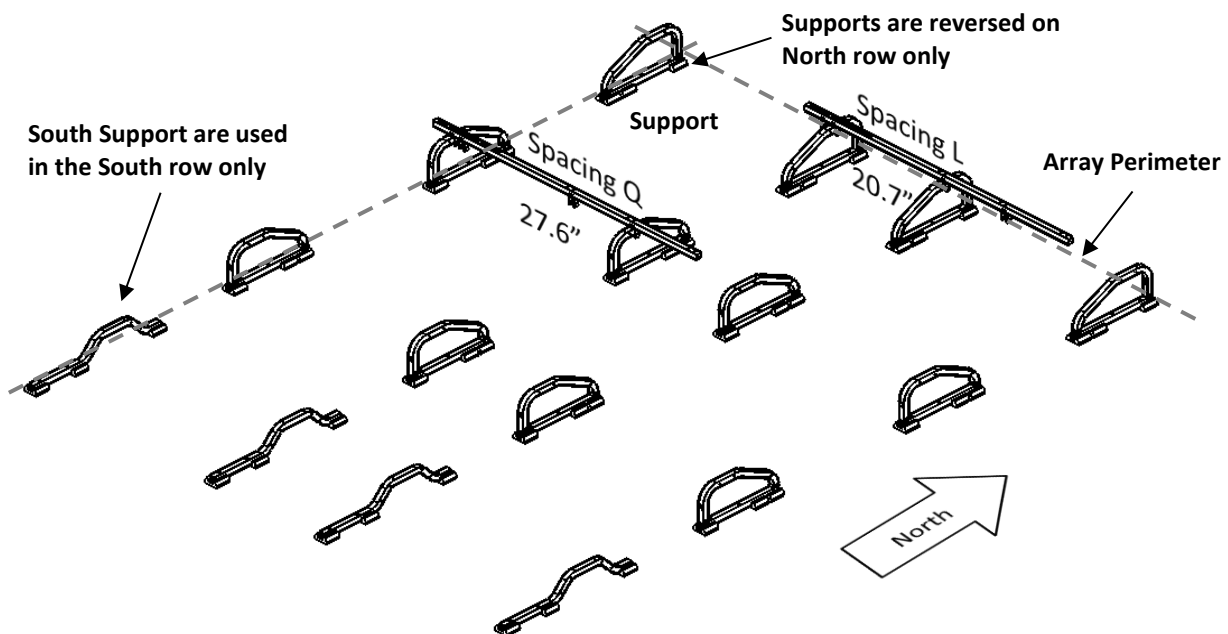

Figure 7 Starting the array
- 3.4. In the example below the western most Support roof pads must be lined up with north-south snap line. North edge Support roof pads must align with east-west snap line. Leave the Spacer Stick in place (Figure 7).
3.11. Place a second row of Supports south of the row previously built. Supports should be spaced by roughly the width of the module in the north-south direction. Mid supports are turned 180 degrees from the North Supports, Figure 7.